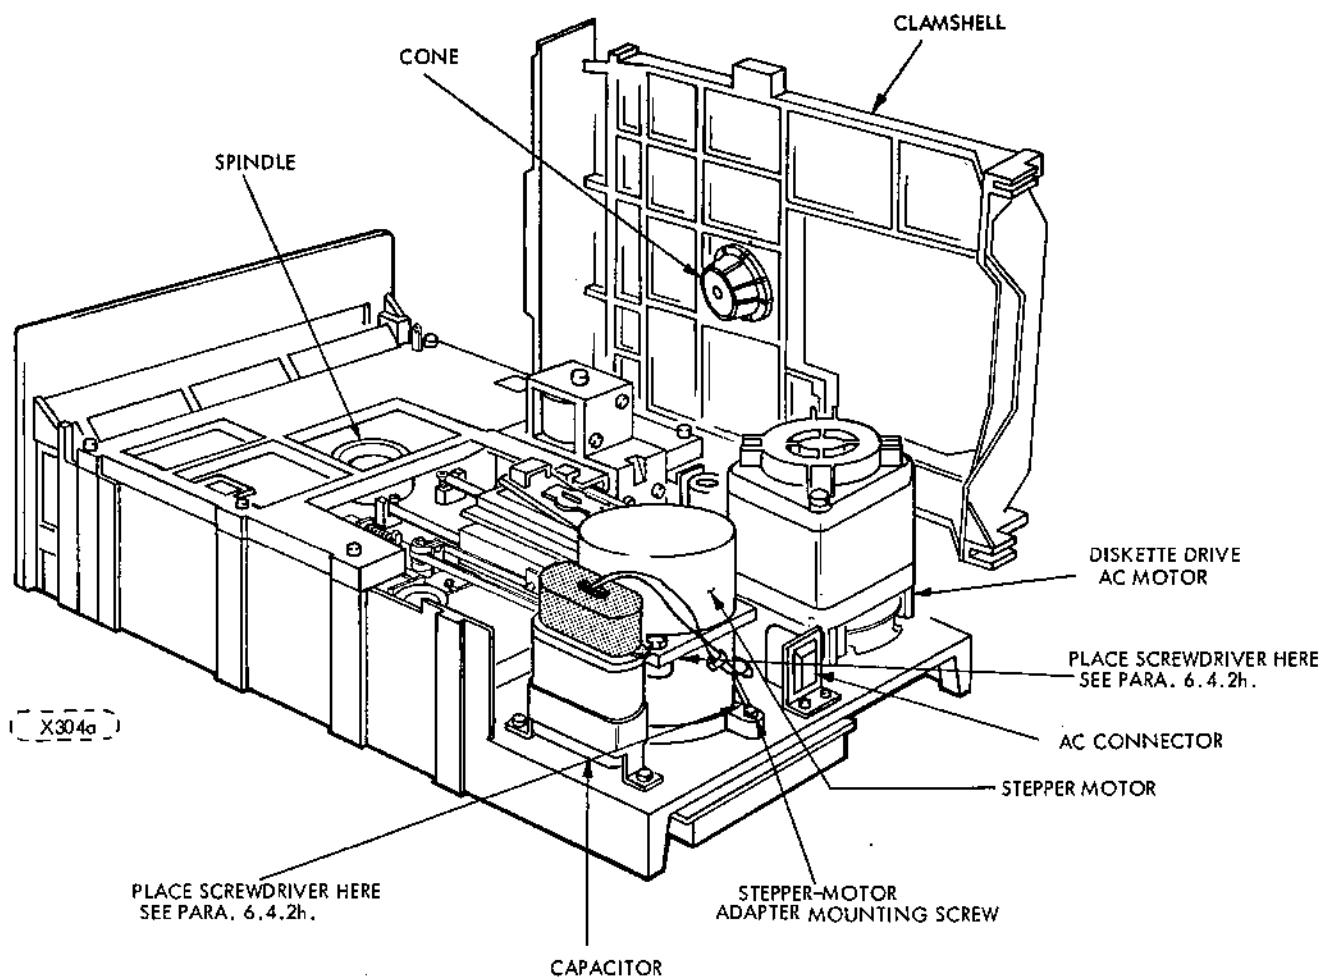

Figure 6-11. Positioning and Head-Load Mechanism,
- h. If not in alignment, loosen the stepper-motor-adapter mounting screws and slowly rotate the stepper motor to adjust the amplitude until the amplitude of both lobes is the same. Small increments of motion can be easily achieved by placing the blade of a flat-blade screwdriver against the adapter main will at the locations shown in Figure 6-11, and then tapping lightly on the screwdriver handle.
Referring to Figures 6-11 and 6-12.